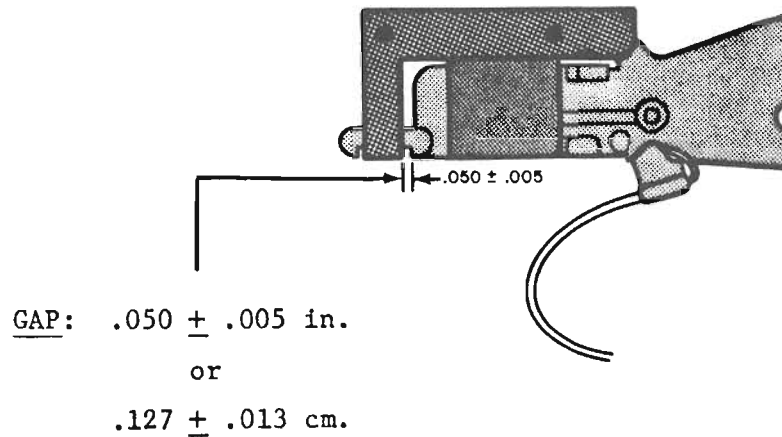

FIGURE 8 HEAD ADJUSTMENT
1. Adjust the upper disk R/W heads for .050" gap (see Figure 8 below for metric equivalent).